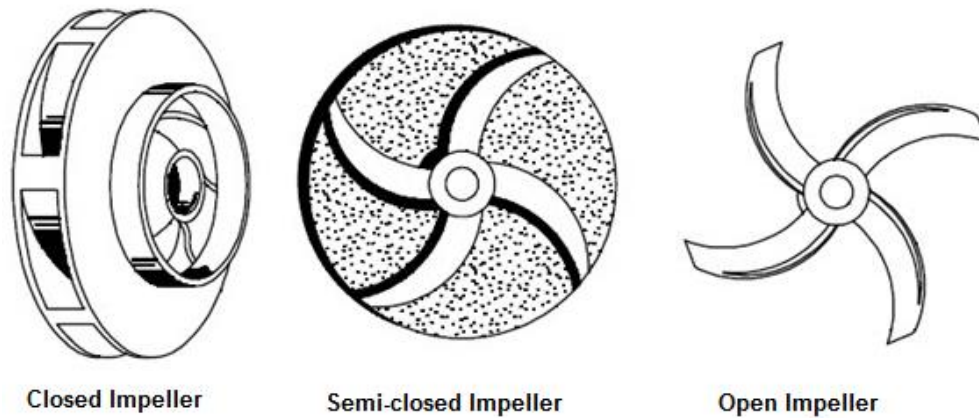

Fig. 5.3 Classification based on type of impeller
**Answer:** Based on the type of impeller centrifugal pumps are classified as closed impeller pump, semi-closed (semi-open) impeller pump and open impeller pump as shown in figure 5.3.